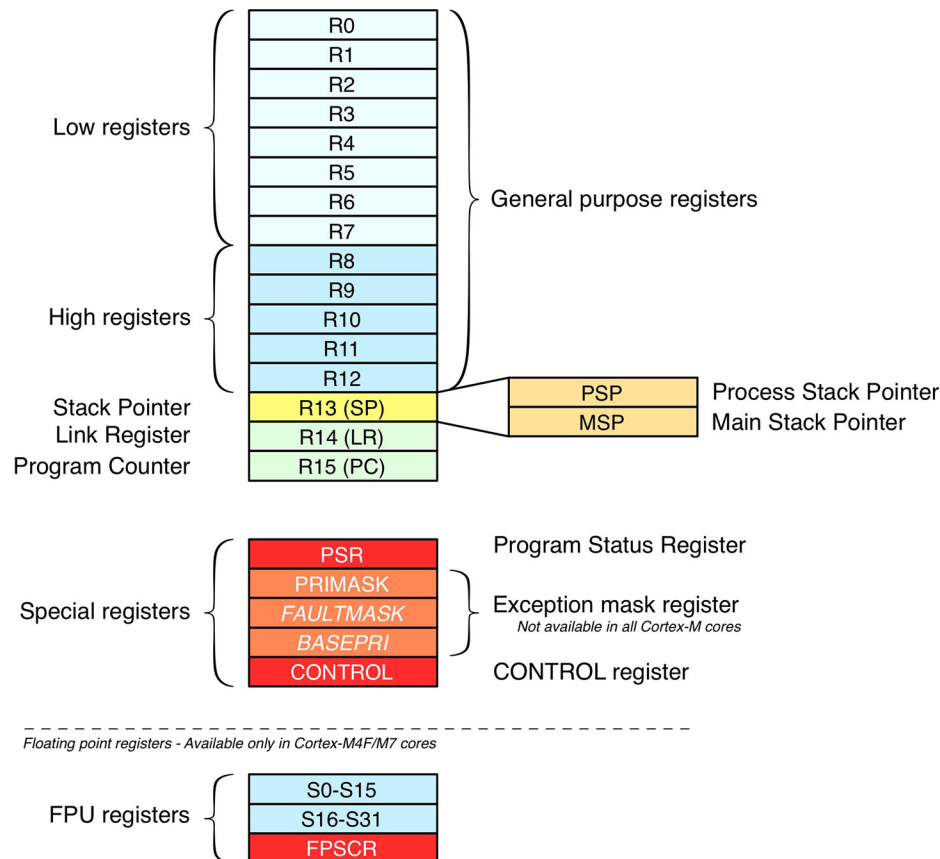

Figure 2: ARM Cortex-M core registers
Figure 2 shows the core Cortex-M registers. Some of them are available only in the higher performance series like M3, M4 and M7. R0-R12 are general-purpose registers, and can be used as operands for ARM instructions. Some general-purpose registers, however, can be used by the compiler as registers with *special functions*. R13 is the *Stack Pointer* (SP) register, which is also said to be *banked*. This means that the register content changes according to the current CPU mode (privileged or unprivileged). This function is typically used by Real Time Operating Systems (RTOS) to do context switching.